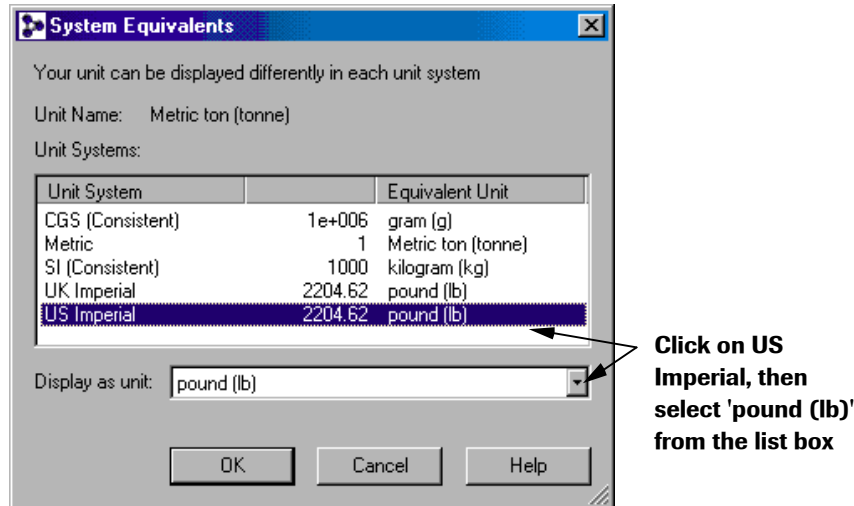

Fig. 10.11 Setting equivalent units in each unit system.
**Click once on the unit system 'US Imperial' (figure 10.11), then select pound (lb) from the drop-down list box. Note that the program is able to calculate the conversion factors automatically.**
**Set the other equivalent units as shown in figure 10.11**